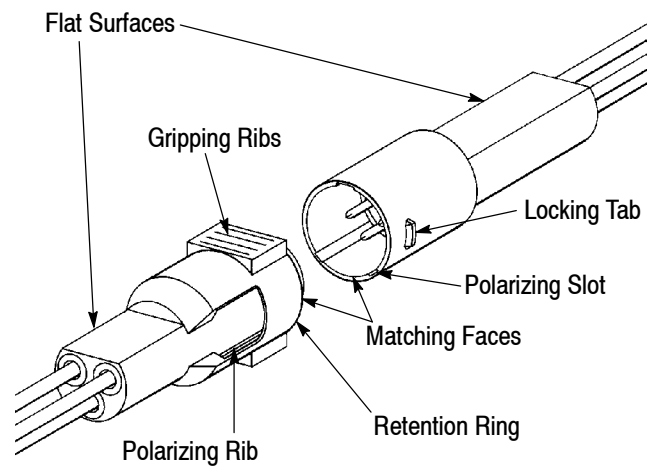

Figure 7
9.1. Mating (Figure 7)
9.2. Unmating (Figure 7)